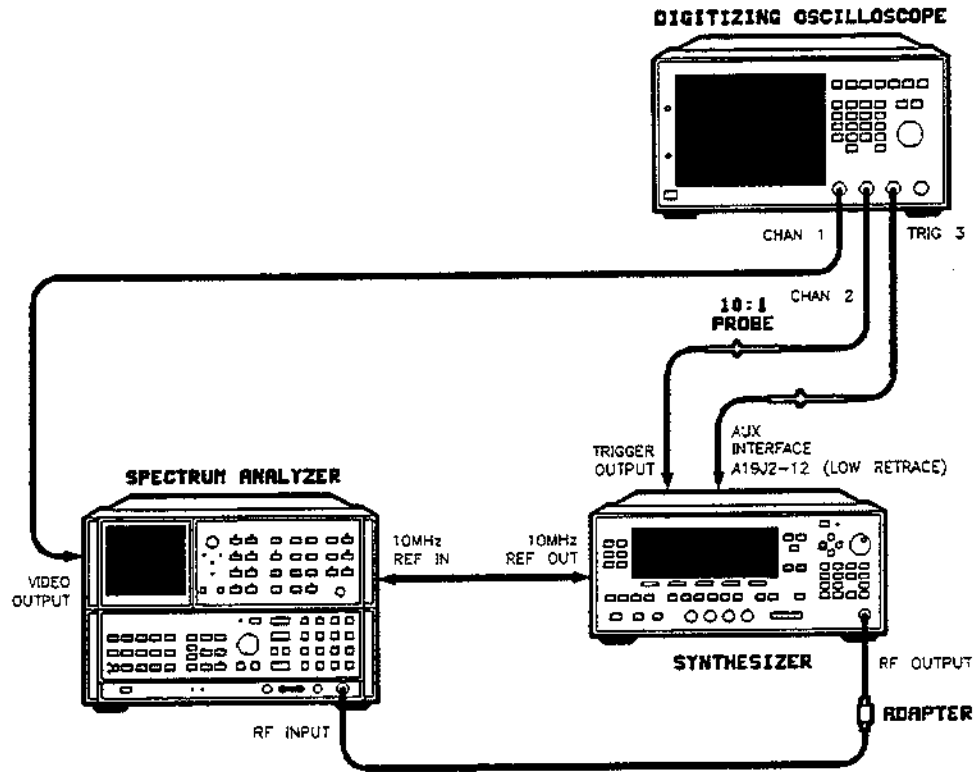

Figure 2-2. Swept Frequency Accuracy Test Setup
1. Connect the equipment as shown in Figure 2-2. Preset all instruments and let them warm up for at least one hour.